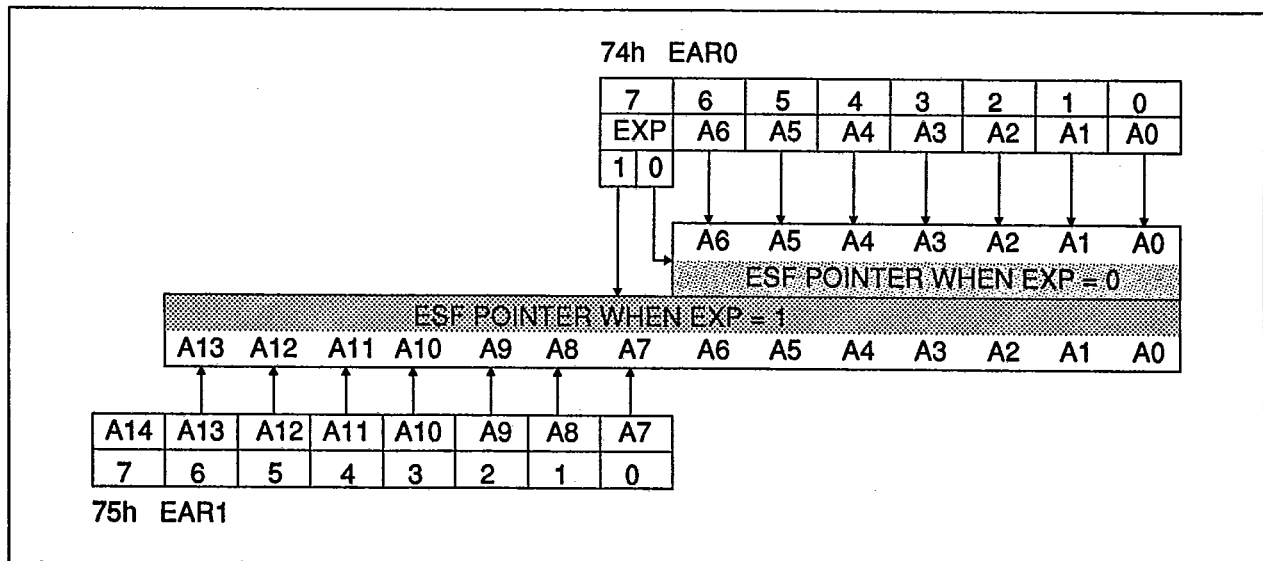

Figure 19. EAR0 and EAR1 Format
3. Issue an I/O read or write command to the EDR address. The selected ESF register is determined by decoding the EAR0 (and EAR1) address value. Figure 19 shows the format for EAR0 and EAR1.